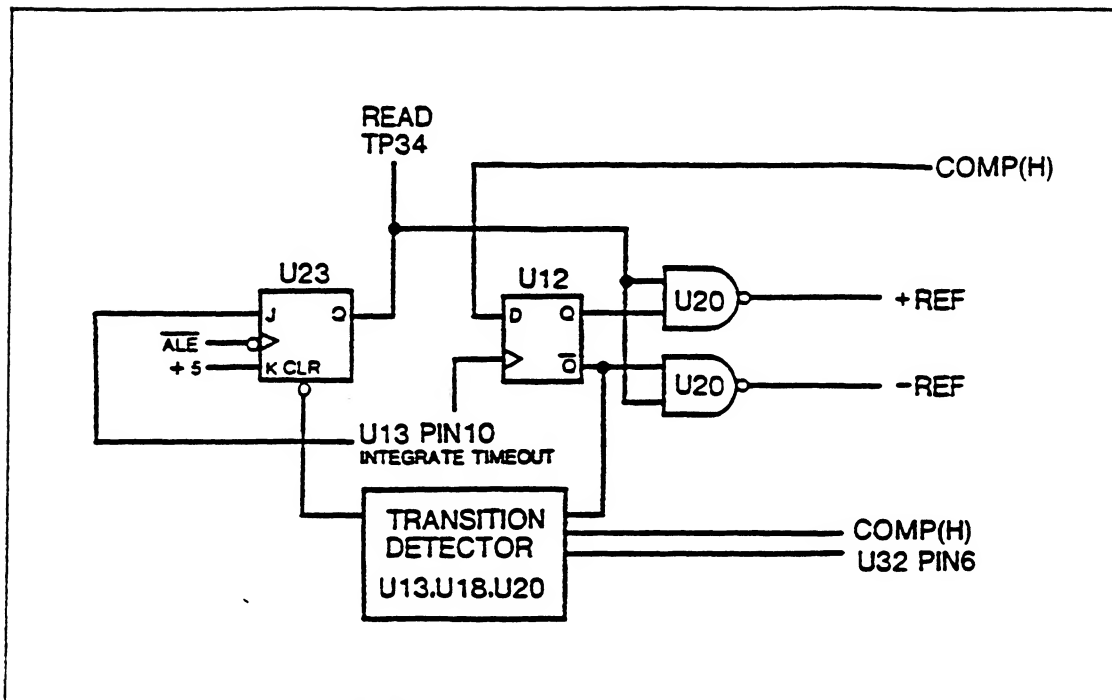

Figure 161-5. Read Timer Simplified Schematic and Timing Diagram
Refer to Figure 161-5 for a simplified schematic and timing diagram of the read timer. The timeout signal from the integrate timer latches the state of the COMP(H) into U12. U12 selects which reference control line (+REF or -REF) is to be asserted during the read interval. The timeout signal is gated through U40 and U13 to U23 allowing the same ALE pulse that terminates the integrate signal to set U23 and commence the read interval. The READ(H) signal (TP 34) enables U19 and U30 to count the 6-MHz system clock and thereby measure the duration of the read period. U13 and U18 detect the eventual change in comparator state and reset U23 when COMP(H) changes, ending the read interval. U32 and U20 prevent switching glitches from appearing as a comparator transition signal by preventing U23 from being reset until 20 microseconds into the read period. The eventual reset to U23 by COMP also resets U31, inhibiting read timer activity until a subsequent integrate cycle is initiated.